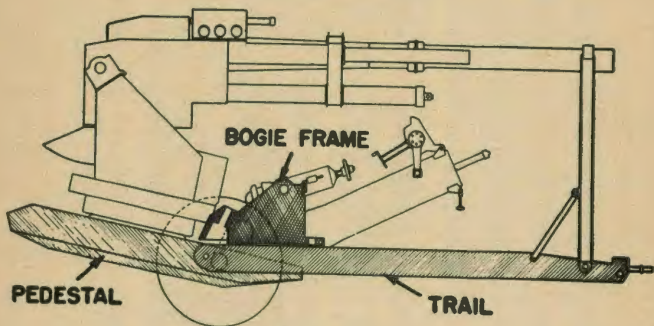

FIGURE 18.
■ 30. DESCRIPTION.—Figure 18 is a schematic diagram of the 90-mm AA gun M1 on Mount M1A1 in the traveling position.